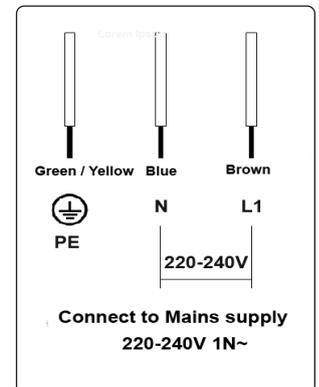

fig.1
- The "blue" neutral wire must be connected to the terminal marked with letter (N) - the live wire (L1) must be connected to the terminal marked with letter (L1) (220-240V 1N~). see Fig.1.
- This appliance must be wired into an above 38A double pole switched fused spur outlet, having 3 mm contact separation and placed in an easily accessible position adjacent to the appliance. It should not be located above the appliance and no more than 1.25m away from it. See Fig.1.
- The "blue" neutral wire must be connected to the terminal marked with letter (N) - the live wire(L1) must be connected to the terminal marked with letter (L1) (220-240V 1N~). see Fig.1.